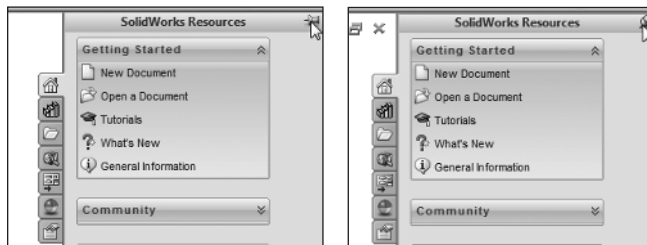

FIGURE 1.6 Pinning the task pane open and hiding it again
2. On the top right of the task pane, click the pushpin icon to “pin open” the task pane (see Figure 1.6).